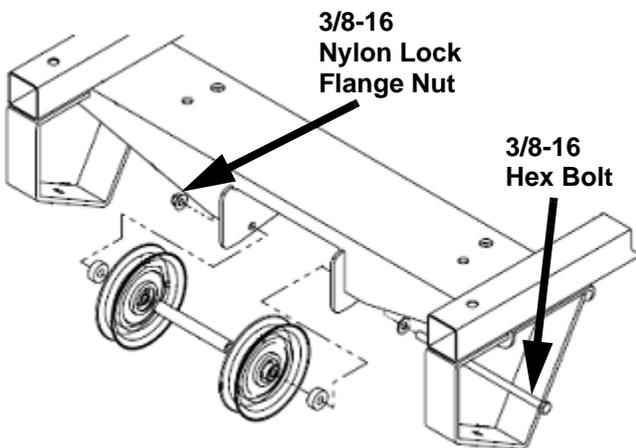

FIGURE 3
5. Remove the 3/8-16 nylon lock flange nut from the 3/8-16 x 8.50" hex bolt shown in Figure 3. Discard the 3/8-16 nylon lock flange nut.